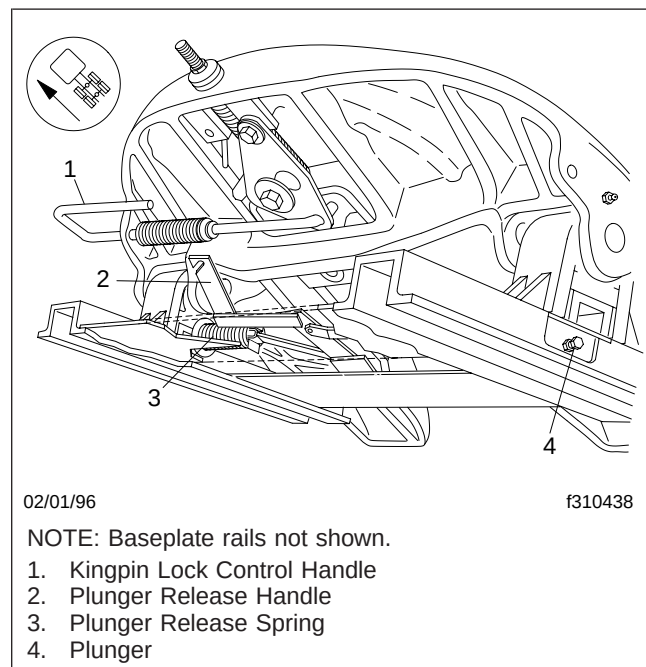
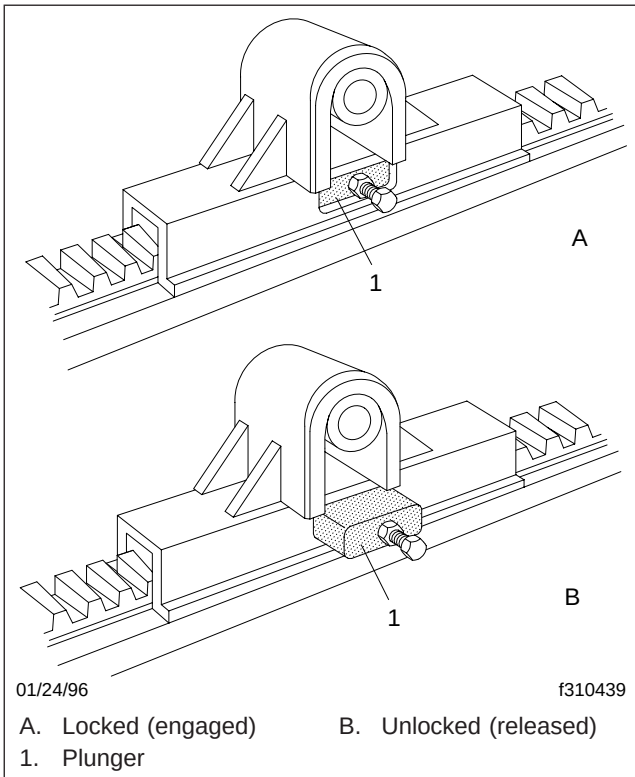

Fig. 10.3, Manual Release Slide
Fig. 10.7, Plunger Positions
The manual release slide assembly (**Fig. 10.3**) is equipped with a single release lever. Pulling on the release lever unlocks both plungers.
- 2.2 For manual release models, pull the release lever (Fig. 10.3) using a release hook, or other suitable tool. Make sure both slide plungers have released. See Fig. 10.7. If the plungers haven't released (haven't come out), lower the trailer landing gear to relieve pressure on the plungers.
- 8.1 For air-operated models, set the cab-operated control switch to LOCK. Visually check the slide plungers to make sure they are engaged in the fully locked position. See Fig. 10.7.
- 8.2 For manual release models, trip the release lever (Fig. 10.3) using a release hook or other suitable tool. Make sure that both plungers have locked (retracted into their pockets), and are fully engaged in the rack teeth. See Fig. 10.7. It may be necessary to move the tractor slightly while keeping the trailer brakes locked.